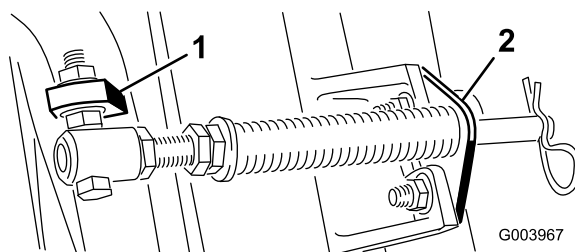
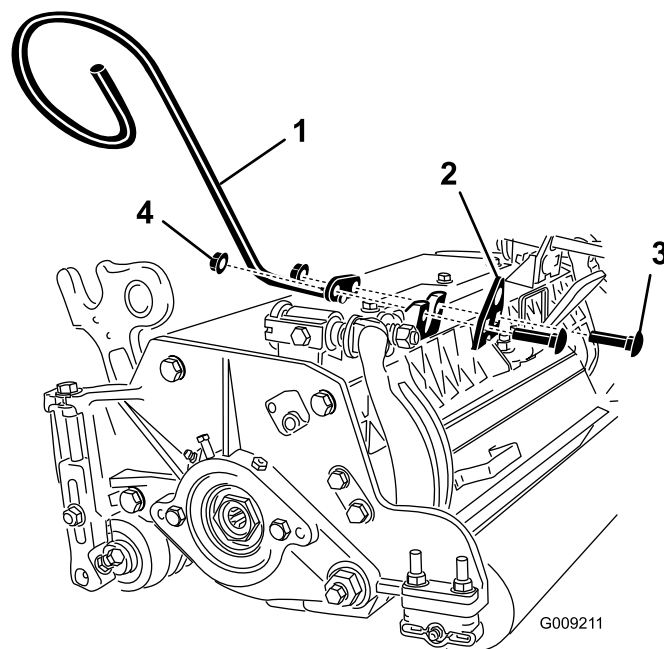

Figure 6
Figure 7
- C. Mount the spring tube capscrew to the opposite tab on the carrier frame and secure with the flange nut. The capscrew head is to be positioned to the outer side of the tab as shown in Figure 6.
- D. Mount the rod bracket to the cutting unit tabs with the carriage bolts and nuts (Figure 6). Also, on the #4 cutting unit, mount the left hand hose guide to the front of the cutting unit tabs when reinstalling the rod bracket (Figure 7).